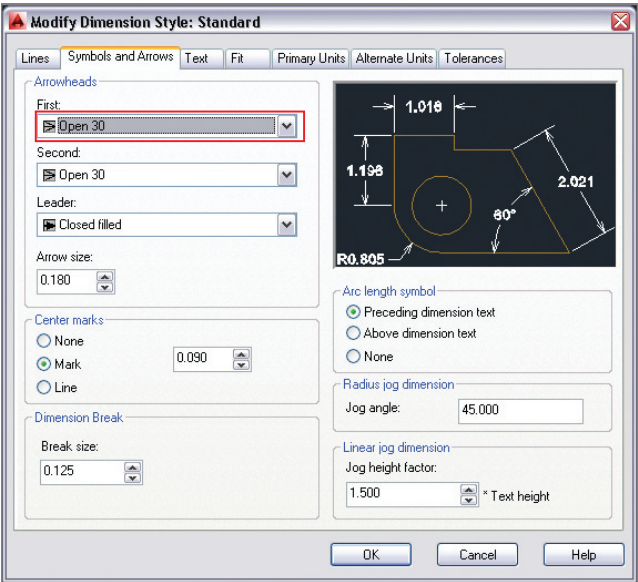

FIGURE 11.5 Changing arrowheads in the Standard dimension style
- 5. Select the Symbols And Arrows tab. In the Arrowheads section, choose Open 30 from the First drop-down (see Figure 11.5). The Second drop-down automatically matches the first by default, so it now says Open 30 as well.